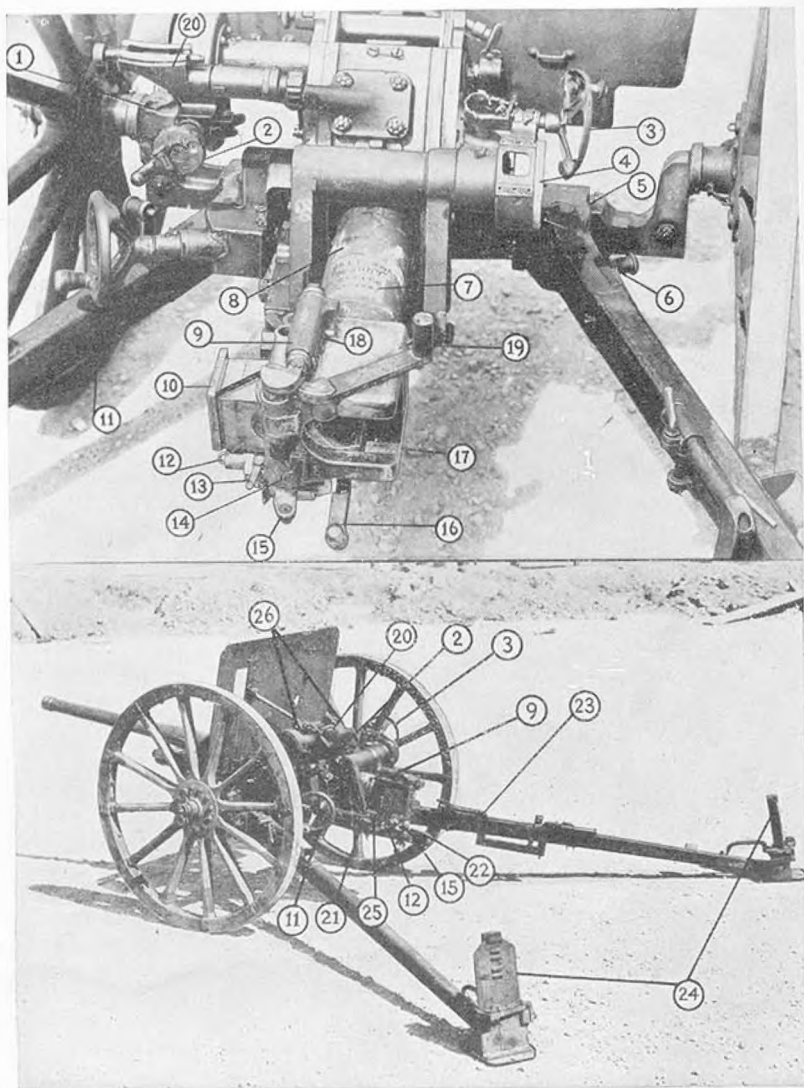

Figure 126.—Two views of Model 94 (1934) 37-mm gun, showing parts.
- (1) The long, slender barrel.
- (2) The low mount.
- (3) The spade brackets on the trails (fig. 126).
- (4) The marking *九四式三七毫米炮* which is on the barrel. (This marking, which is read *Kyuyon Shiki Sanjunana Miri Ho* from right to left, means “94 model 37-mm gun.”)
(Key to fig. 126)